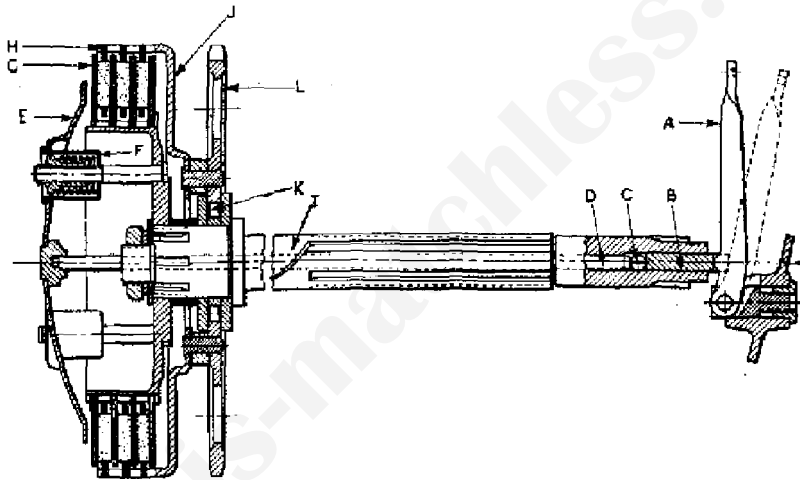

FIG. 33.—ILLUSTRATING CLUTCH OPERATION.
pressure on the clutch plain plates (G) and the clutch friction plates (H) (Fig. 33), and enables the clutch sprocket (L), to revolve on its bearing (K) without rotating the clutch hub, which is secured to the mainshaft (T). Consequently no power is transmitted to the rear wheel, and the clutch is said to be " out " or free.
On allowing the handle-bar clutch lever to return to its normal position so that the gearbox clutch-operating lever (A) (Fig. 33) is free, the clutch thrust-rod (D), ball (C),